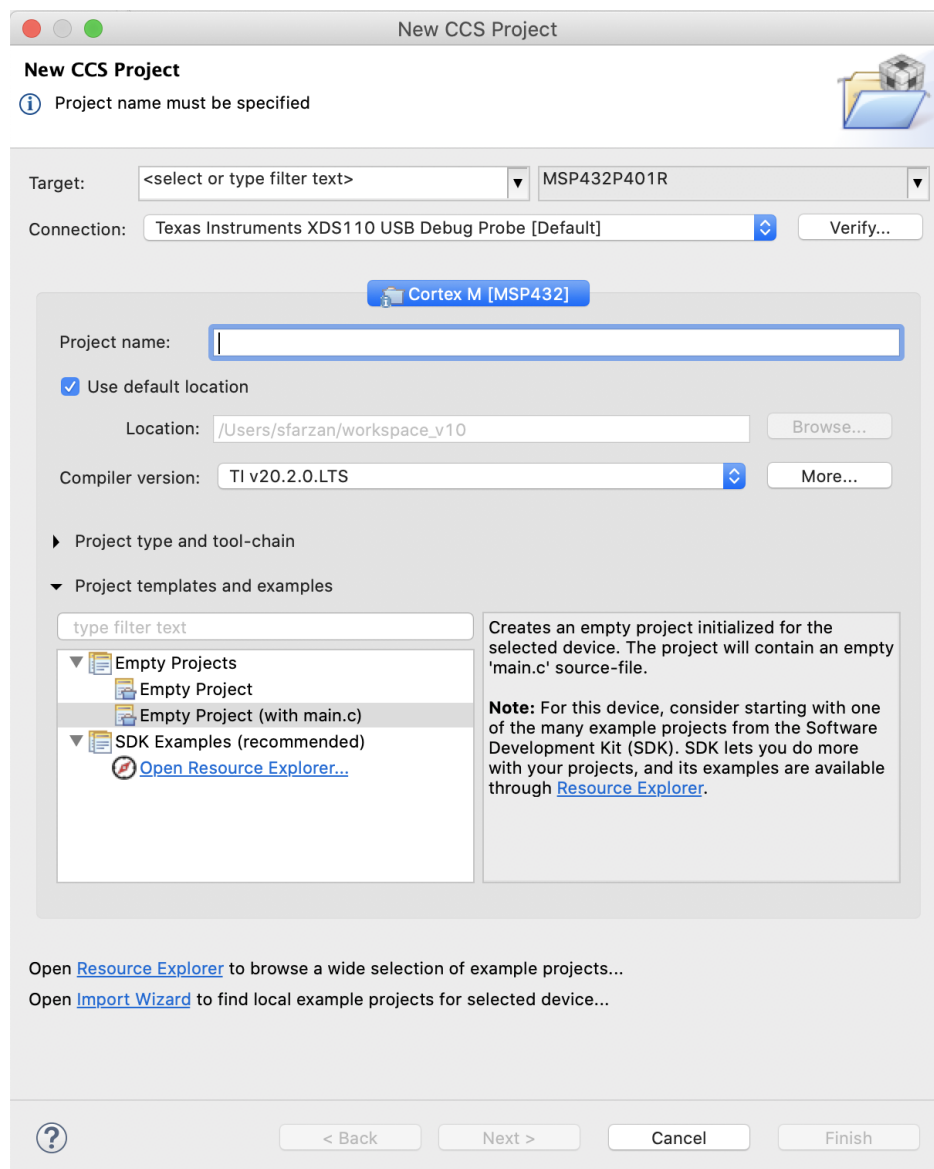

Figure 5: Creating a new CCS project.
- In the New CCS Project wizard (shown in Figure 5), type or select the Target device as **MSP432P401R**.